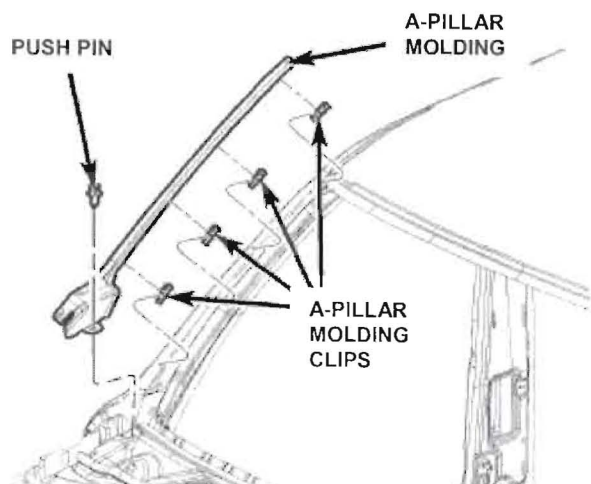

Figure 2
6. Using trim stick C-4755 or equivalent, remove the A-pillar push pin (Figure 2).
7. Remove the windshield A-pillar molding and clips from the windshield A-pillar (Figure 2).
25. Install the windshield A-pillar molding and clips to the windshield A-pillar (Figure 2).
26. Install the A-pillar molding push pin (Figure 2).